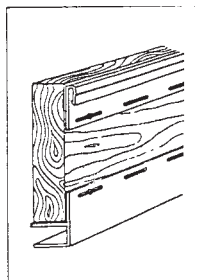

FIG. 36 Installation of Undersill Trim
- 11.4.1 Install undersill trim molding at the top of the fascia boards. (See Fig. 36.)